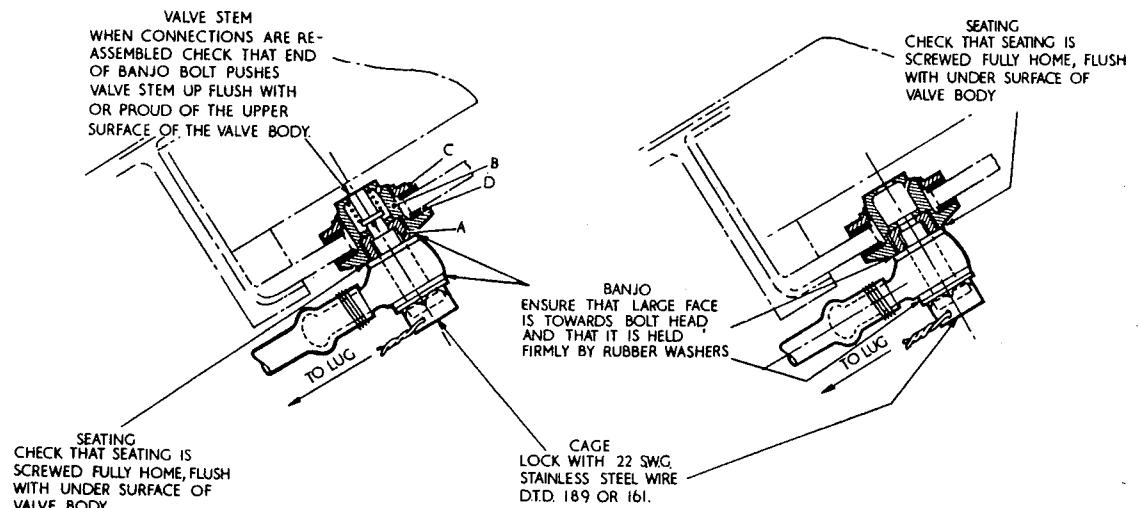

Fig. 2B Windscreen air drier banjo assembly
(1) Examine the windscreens for signs of internal misting and moisture deposits. The presence of moisture indicates leaking connections, a cracked transparent panel, saturated silica gel or a blanked off air drier.
(2) Examine the system for damage and security and check the colour of the silica gel crystals in the air drier tube. The crystals, which are normally blue in colour, should be changed when they turn red. Use silica gel Ref. No. 33C/790, when replenishing the air drier tube.
(3) On replacement of an air drier ensure that it is not taped or otherwise blanked off.
*Before attempting to remove the air drier tube, the windscreen dry-air sandwich must be sealed against the ingress of moisture by unscrewing and removing the banjo bolt and rubber tube from the windscreen valve connection. The valve is spring loaded and will close thus sealing the windscreen. The instructions for the re-assembly of the banjo and banjo bolt are given in fig. 2B.*
*Before attempting to remove an air drier, the windscreen dry air sandwich must be sealed against the ingress of moisture by blanking off that end of the rubber tube disconnected from the air drier. See fig. 2B for assembly of banjo.*